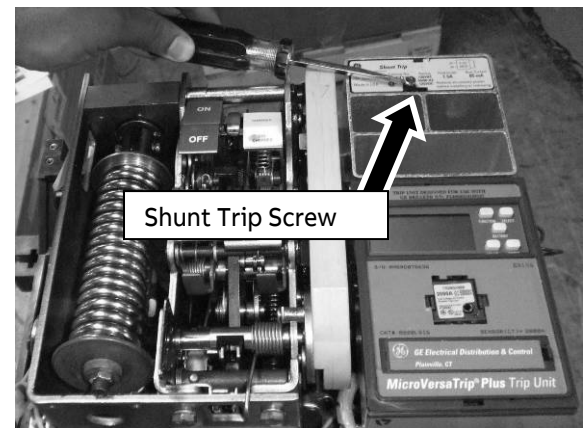
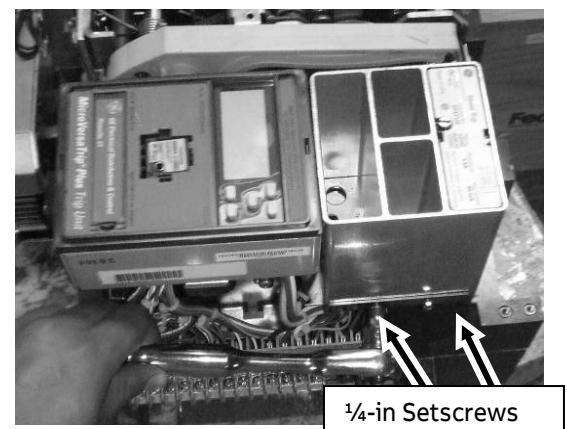

Figure 13: Shunt Trip Screw to be Unscrewed
Figure 14: 2 Setscrews
12. Loosen any screws on the front face of the accessories (Figure 13) until the screws are fully loosened from the housing, and then loosen the $\frac{1}{4}$ -in setscrews located on the side of the shunt trip guide housing (Figure 14). This will allow the guide housing and accessories to be removed.